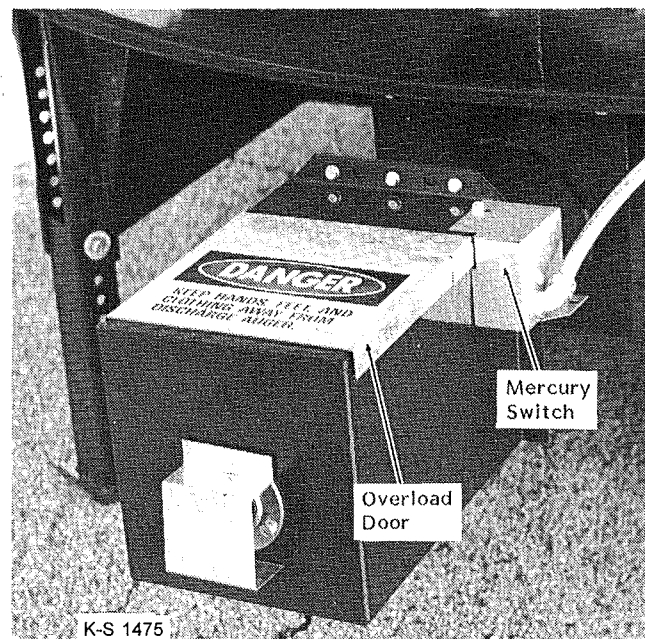

Figure 9 - Rear Discharge Overload Door
1. If the take-away system fails, the dryer will discharge grain until the rear discharge overload door (Figure 9) is raised by the grain.